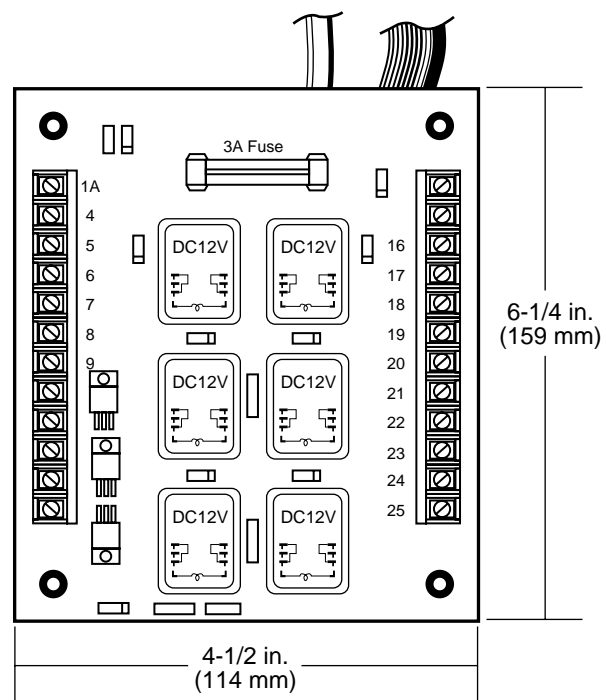

Figure 3-3.2
3-3.2 Relay Module. The Relay Module, figure 3-3.2, includes all of the control, alarm and shutdown relays that are required to make up the generator engine control. Relays are available for operation on either 12 or 24 volt battery systems. Six (6) relays are included for: